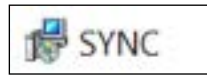

Figure 1: SYNC Installer
Step 2: Click the SYNC.msi file (**Figure 1**) and proceed through the setup (**Figure 2**) to launch SYNC for the first time.